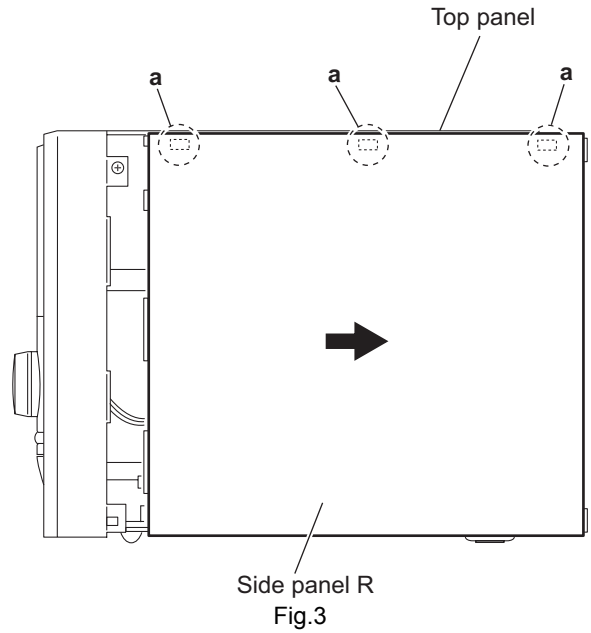

Fig.3
- (3) From the both sides of the main body, release the engagement sections (**a**, **b**) of the side panels L/R from the top panel in the direction of the arrow. (See Figs.3 and 4.)
- (4) Remove the side panels L/R toward this side.